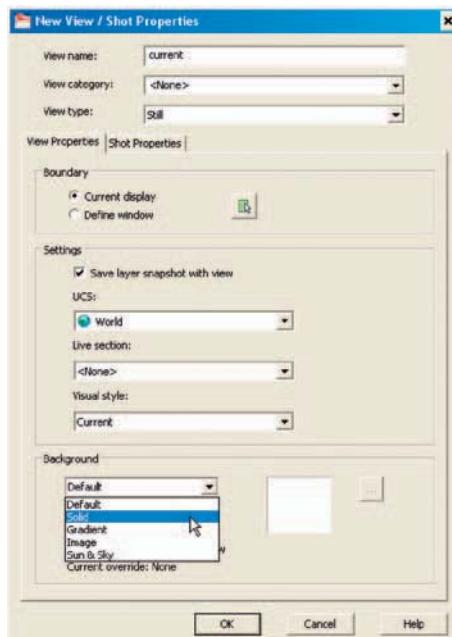
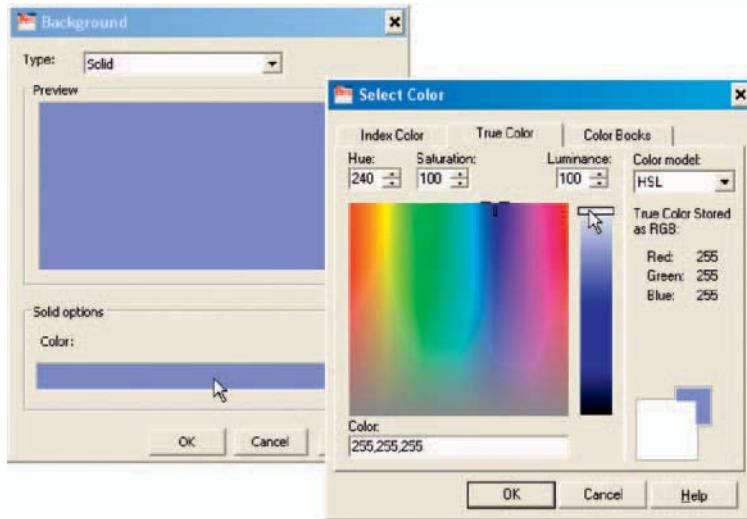

Fig. 15.21 The **New View/Shot Properties** dialog
Fig. 15.22 The **Background** and **Select Color** dialogs
2. The **New View/Shot Properties** dialog (Fig. 15.21) appears. Enter **current** (or similar) in the **View name** field. In the **Background** pop-up list *click* **Solid**. The **Background** dialog appears (Fig. 15.22).
3. In the **Background** dialog click in the **Color** field. The **Select Color** dialog appears (Fig. 15.22).